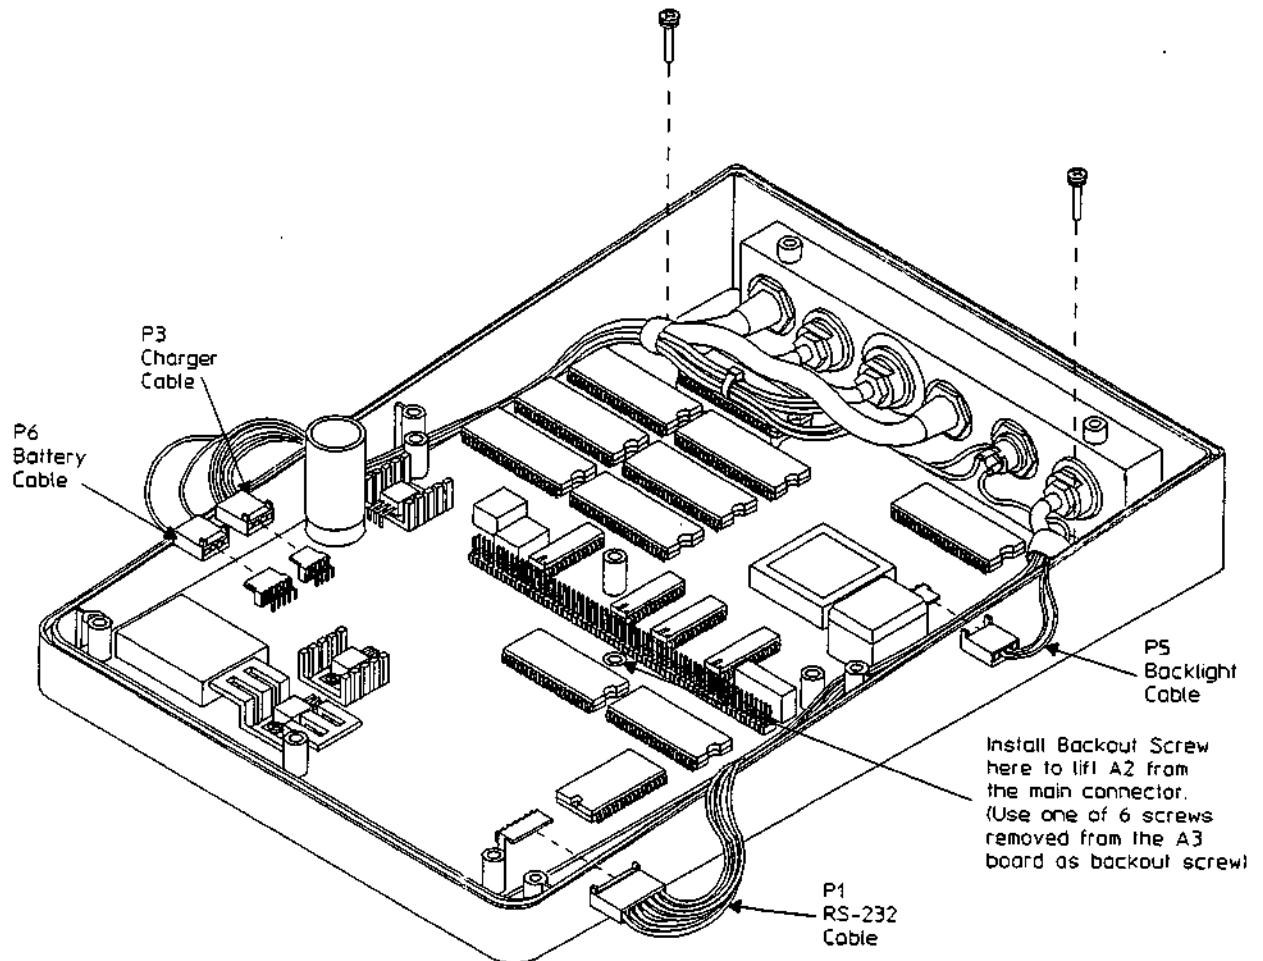

Figure 8-4.
1. Remove the two screws holding the A2 assembly as shown in figure 8-4.